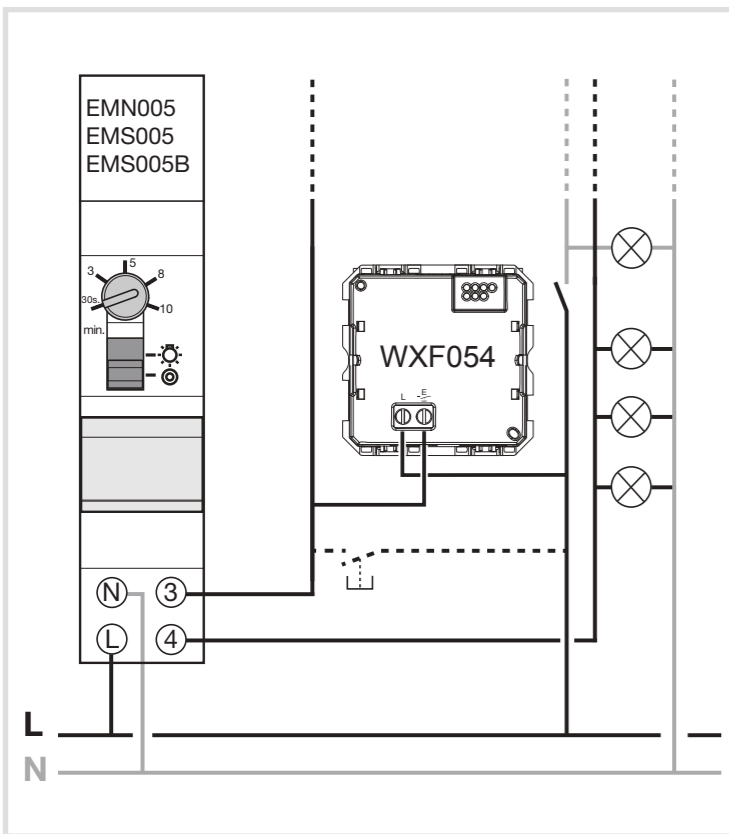

Figure 6: Connection to stair light time switch, e.g. Hager
- Screw supporting ring (1) to a wall box in the correct position.
- Connect motion detector (2) according to the connecting diagram (figure 6/7).
- Snap motion detector (2) into the supporting ring.
- Snap cover (3).
- Fit frame (4).